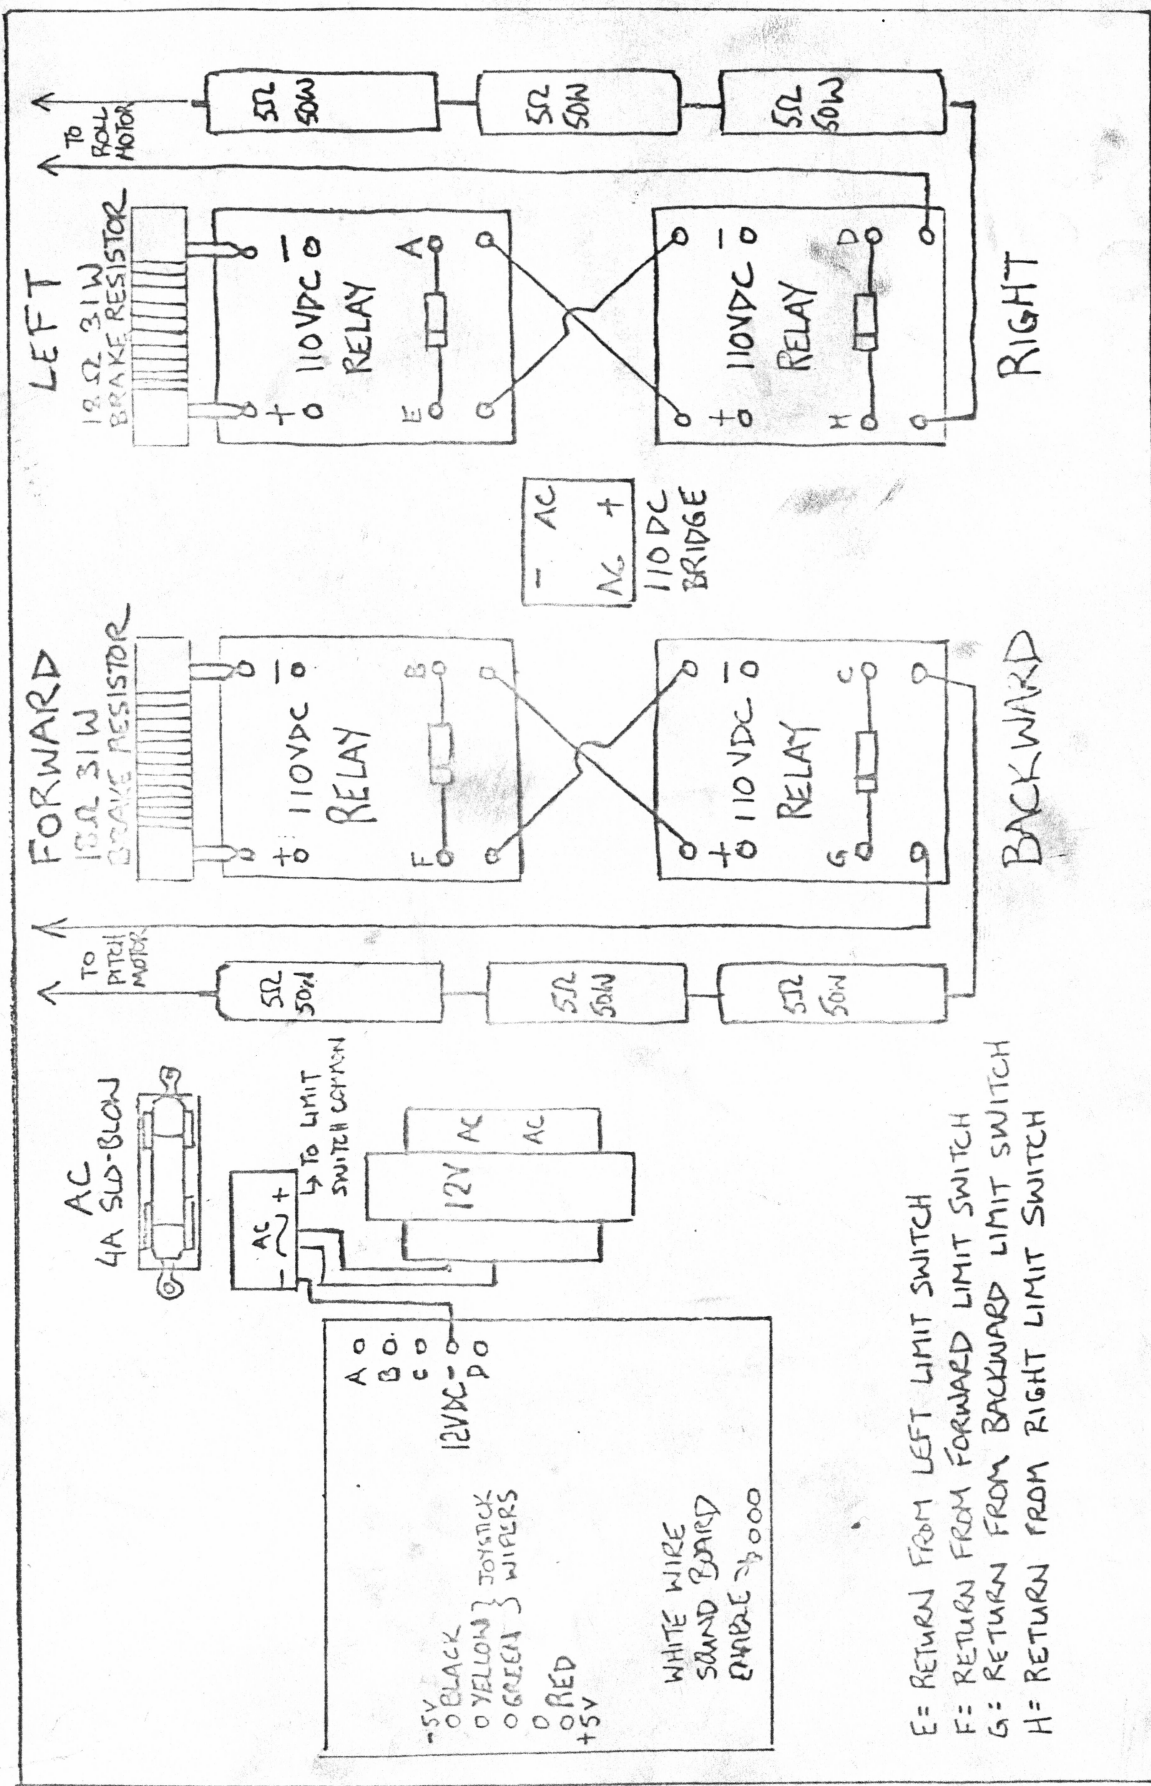

FIGURE 2
13. Remove the main Star Wars game boards from their mounting can and modify the sound board as follows: Install chip 7408 piggyback onto chip 2H (74LS04) connecting pins 7 & 14 only, leaving all other pins unattached. Run a control wire from chip 3J (74LS139) pin 12 to pin 1 on piggybacked chip 7408. Attach output control wire from pin 3 on 7408 to HOTSEAT comparator board as indicated in figure 2. Disable attract mode sound on Star Wars game by setting switch number 7 at location 10D to off - or HOTSEAT will operate without game being credited.